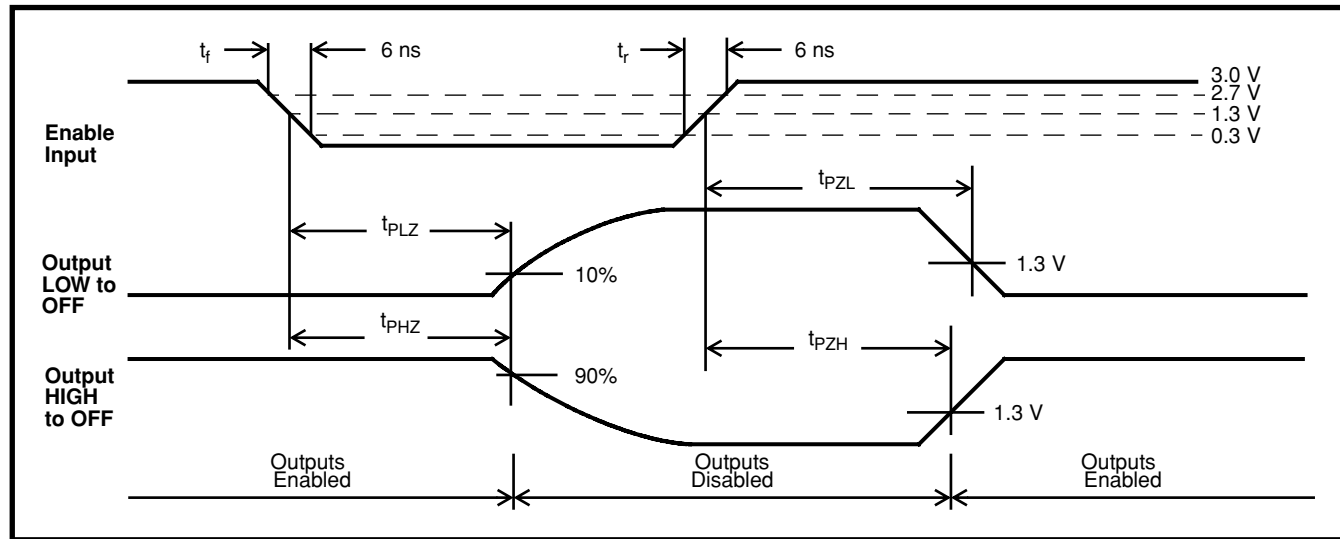

Figure 16 - Three State Outputs and Enable Timings
**AC Electrical Characteristics†** - Voltages are with respect to ground ( $V_{SS}$ ) unless otherwise stated. (Ref. Figure 16)